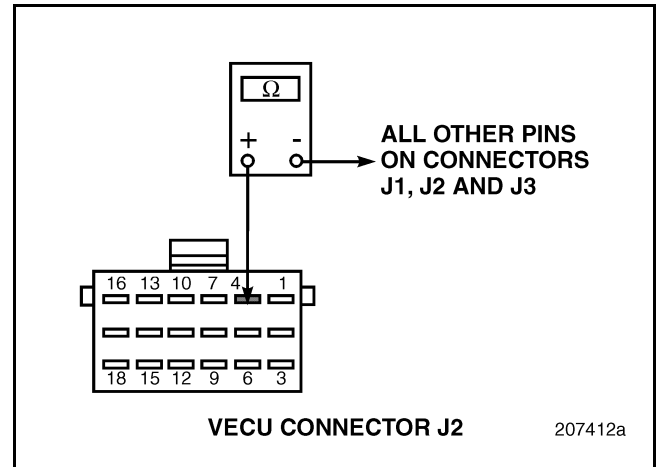

Figure 263
4. Check for continuity between Vehicle Electronic Control Unit (VECU) connector J2 pin 4 and all other pins in connectors J1, J2, and J3 (see Figure 263).